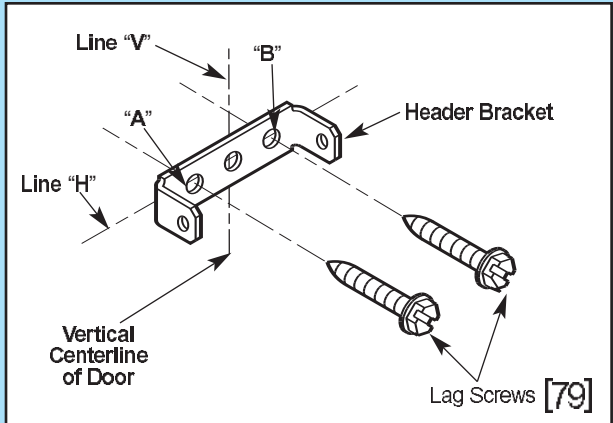
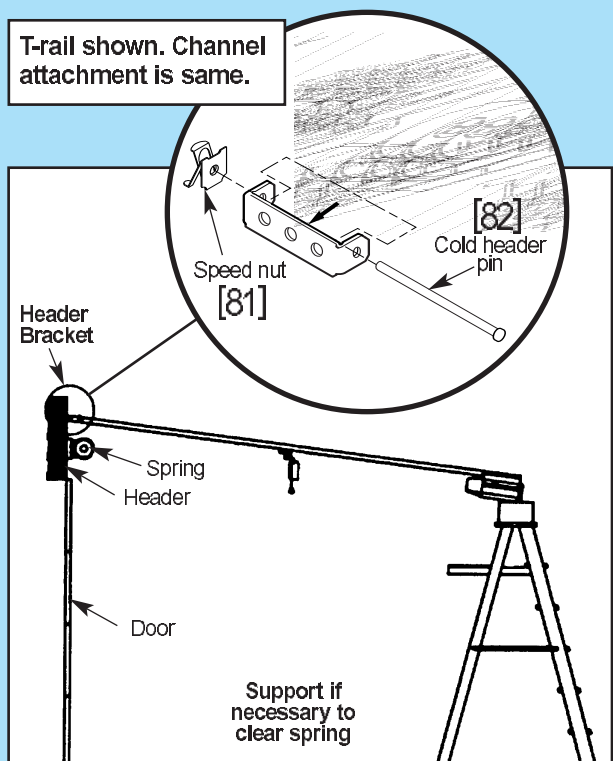

Fig. 2-3
Fig. 2-4
3. **Install header bracket (Fig. 2-3)**
- Fasten bracket to header using two (2) 1/4” x 2” lag screws [79].
4. **Attach channel/rail assembly to header bracket (Fig. 2-4).**